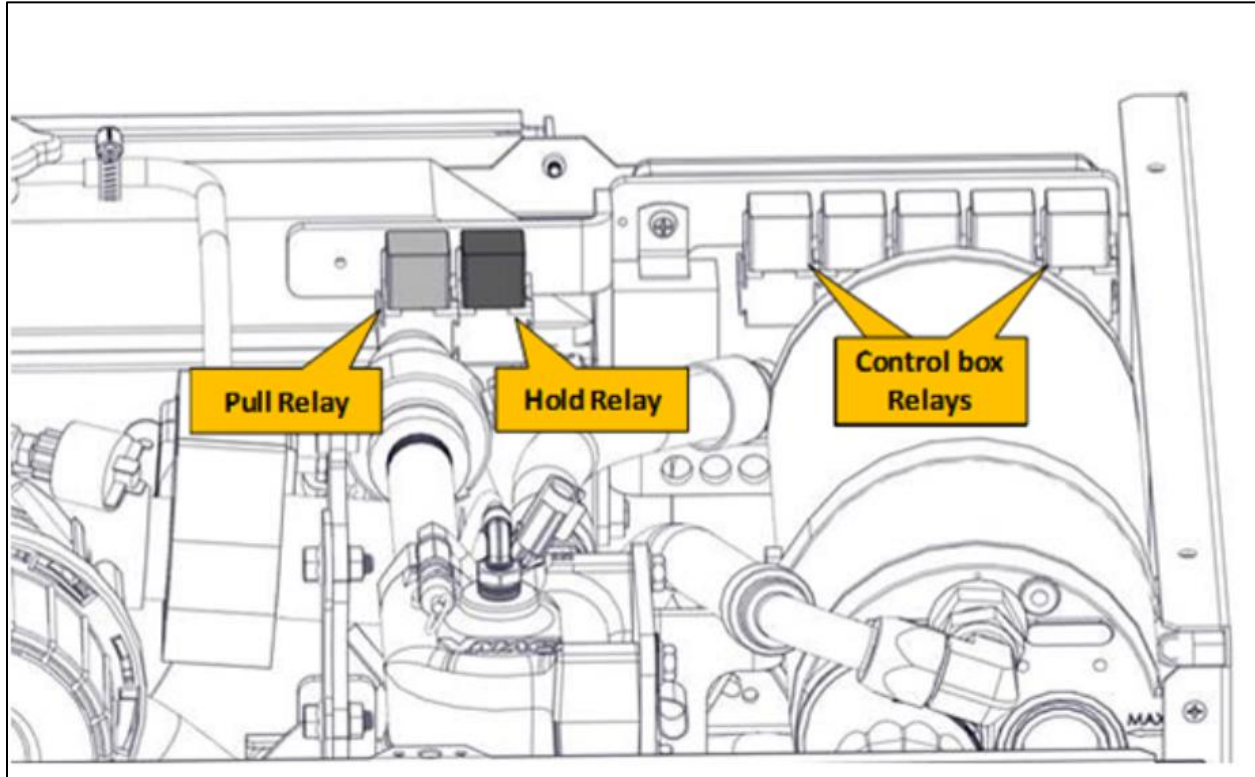

Figure 2
- ☐ Locate the “pull” and “hold” relays (Figure 2).